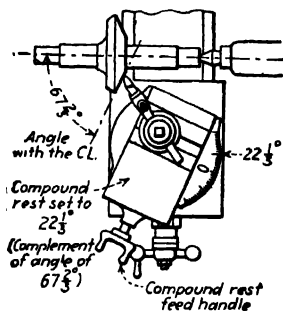

Fig. 16-13. Using compound rest for turning angles.
**The Use of the Compound Rest for Turning Angles.** The best method of turning an angle on a piece of work is to use a tool rest that may be swiveled on the cross slide to any desired angle. This tool rest is known as the *compound rest* (Fig. 16-13). The swivel plate of
**Setting the Compound Rest.** Setting the compound rest is comparatively easy if the operator realizes, first, that the compound rest is normally set at 90 deg. from the center line of the lathe; and, second, that the travel of the tool is to be at a certain angle other than 90 deg. with the center line of the lathe. In order to cut at a certain angle with the center line of the lathe, the compound rest must be swiveled either (1) the number of degrees which is the *complement* of the angle with the center line, or (2) 90 deg. plus *the angle* with the center line.
*To illustrate (1):* Suppose a bevel gear blank is to be turned to an angle of 67 degrees 40 minutes with its axis, that is, 67 degrees 40 minutes ( $67\frac{2}{3}$  deg.) with the center line. The complement of  $67\frac{2}{3}$  deg. is  $22\frac{1}{3}$  deg. Set the compound rest around  $22\frac{1}{3}$  deg. from its normal position (Fig. 16-13).